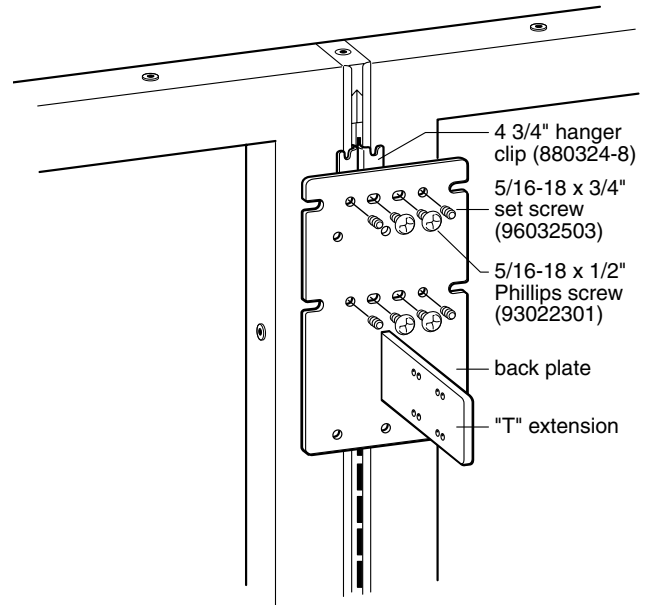

Figure 1
1. At the joint between two frames, engage two 4 3/4" hanger clips into the left and right hand slotted hanger frames. Make sure both clips are at equal heights and are firmly seated in the hanger frame. (Figure 1)
2. Align the four slots in the center of the back plate of the Power/Data Bracket with the weldnuts on the clips. The Power/Data Bracket should be oriented such that the "T" extension is lower than the hanger clips. Fasten bracket to clips with four 5/16-18 x 1/2" Phillips screws provided. Tighten screws securely. (Figure 1)
3. Install the nylon tipped 5/16-18 x 3/4" set screws into the four tapped holes in the back plate of the bracket. Adjust the set screws to keep bracket firmly seated against the frames. (Figure 1)